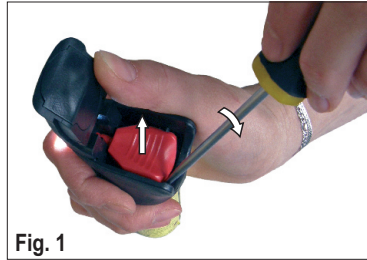

Fig. 1
2) Tilt the flashlight cover and use a flat object (e.g. knife or screwdriver) to remove cautiously the nozzle release button upwards – see Fig. 1